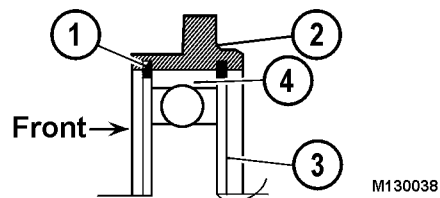

FIGURE 10-27.
Note: This retaining ring has two flat sides (3, Figure 10-27).
3. Coat outer race of front bearing (4, Figure 10-27) with thin coat of loctite.